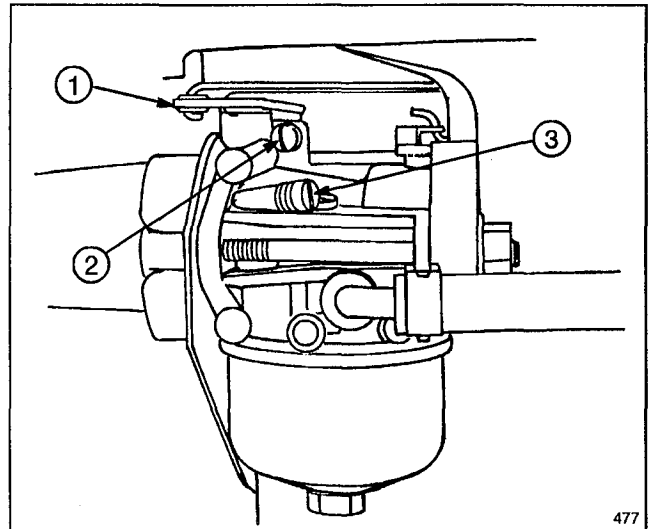

Figure 23
1. Gently turn idle mixture valve clockwise until it just closes (Fig. 23). Turning valve in too far may cause damage.
4. Rotate throttle (Fig. 23) counterclockwise and hold against idle speed adjusting screw (Fig. 23) while turning idle speed adjusting screw to obtain 1750 RPM.